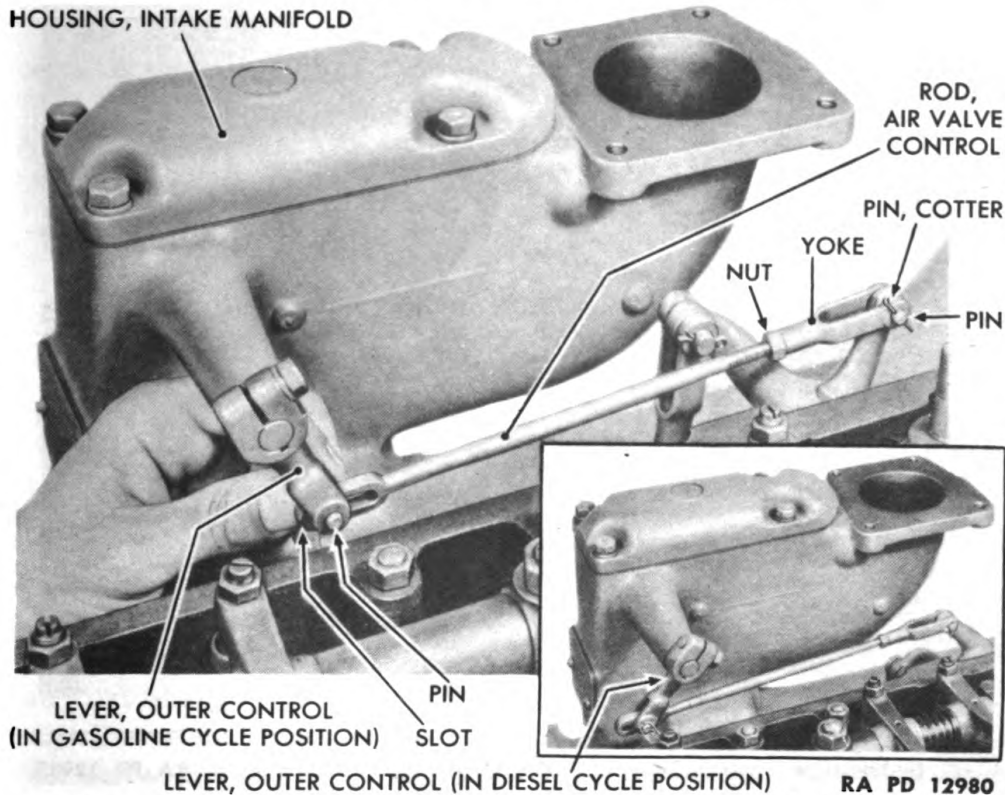

Figure 185—Air Valve Control Rod Installation and Adjustment
(12) **INSTALLING AND ADJUSTING AIR VALVE CONTROL ROD** (fig. 185).